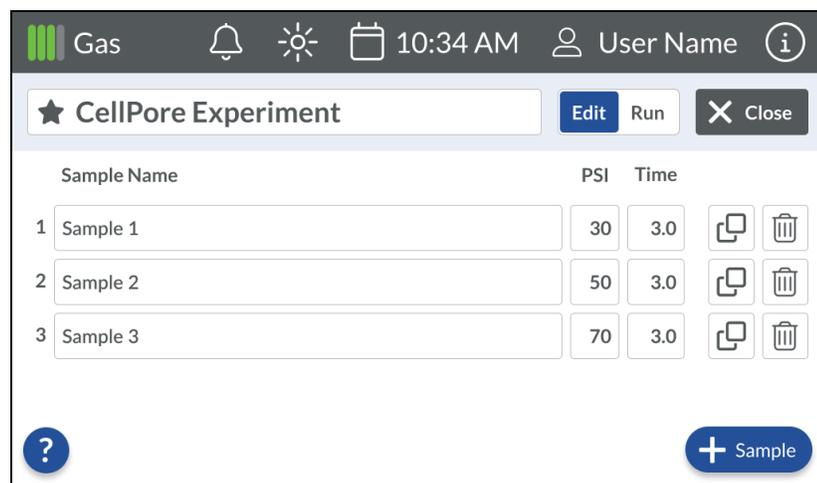

Figure 25. Modifying an Existing Experiment. Experiments that are recalled display the list of samples that were previously defined.
Select the desired experiment by tapping on the appropriate line of the list in the Experiments tab. This opens the selected experiment in Edit mode (Figure 25).
2. From the Experiments List, choose the desired Experiment to be run by tapping its name (Figure 23). The Experiment opens in Edit mode; review the Sample Name list and parameters for accuracy (Figure 25).